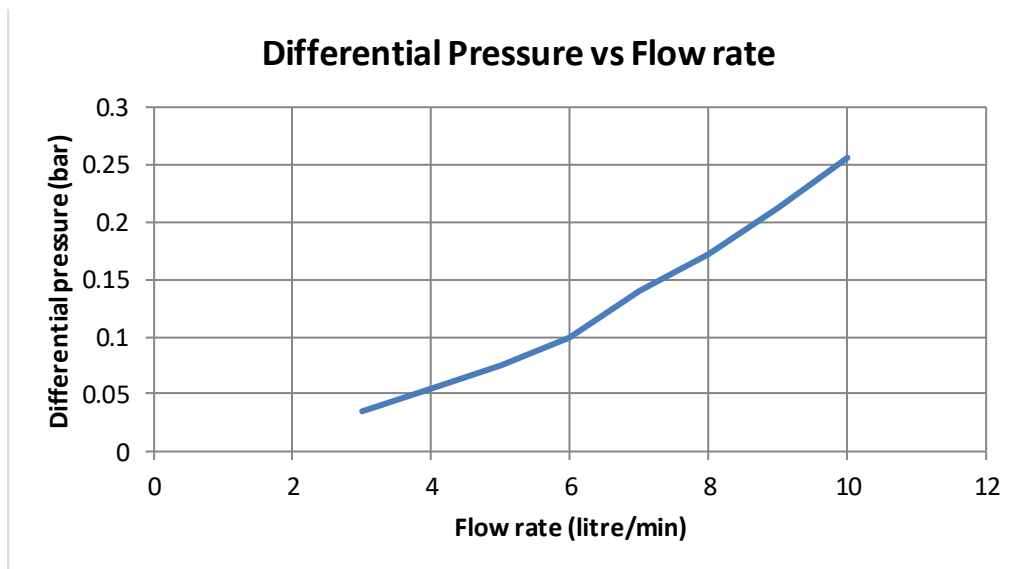

Figure 18: Pressure drop vs. flow rate.
- See Figure 18 showing pressure drop vs flow rate